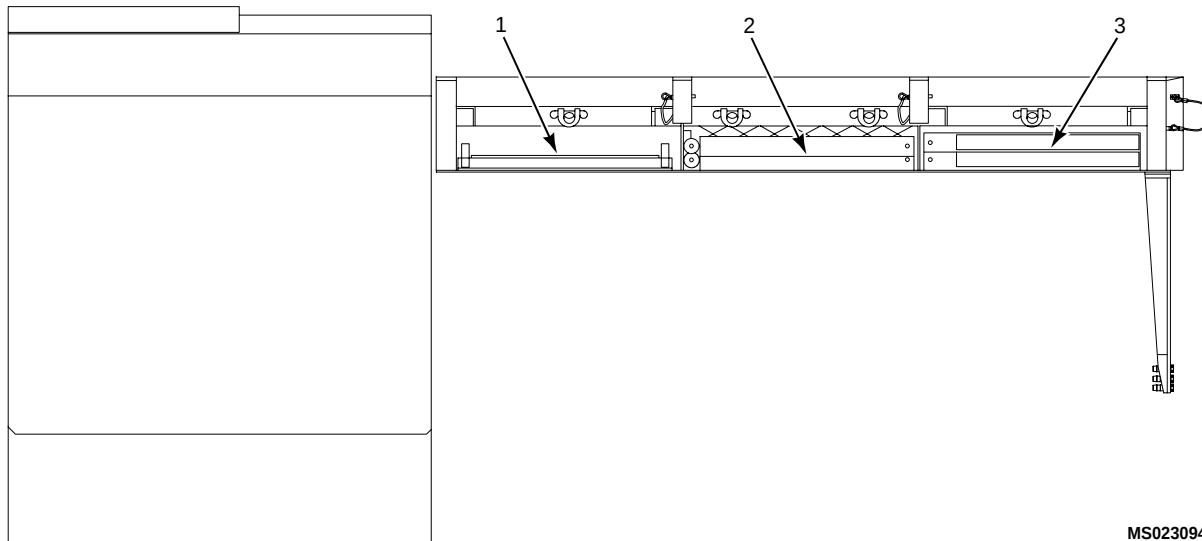

Figure 2. Storage Areas
11. Stow ladder assembly in rear storage area (1) and secure with strap. (Figure 2)
12. Stow front and rear handrail assemblies in front storage area (3) with extensions facing aft end of rack assembly and secure with strap.
14. Stow the 2 side handrail assemblies in curbside center storage area (2) and secure with strap. (Figure 2)
2. Remove 4 bolts (1), 4 nuts (2), 4 lock washers (3), 4 flat washers (4), 4 rubber washers (5) and 4 curved backing plates (6). (Figure 2)
3. Remove side box assembly (7) and pad (8).